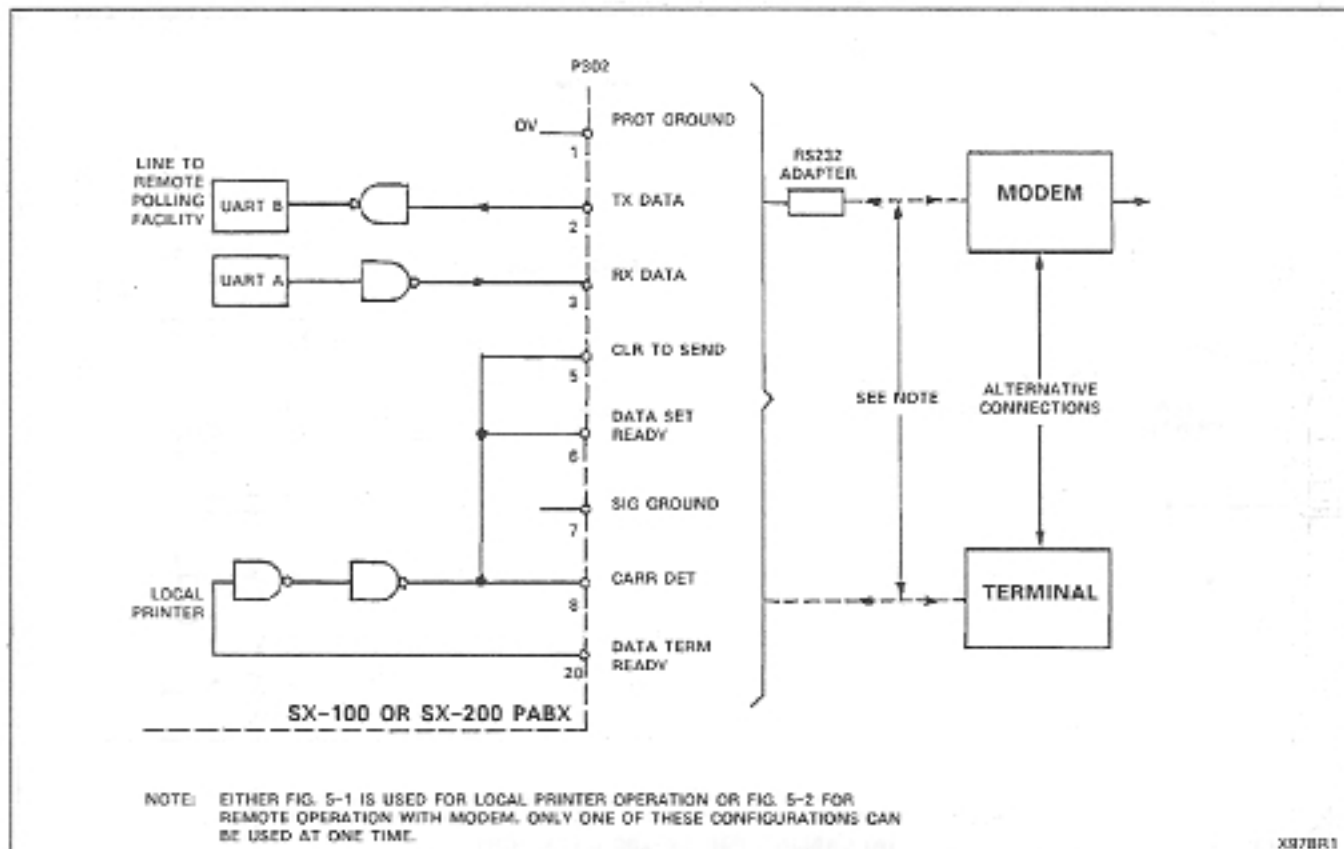

Fig. 4-1 Alternative Configurations - PABX Data Port
- Determination of the required output configuration (see Fig. 4-1).